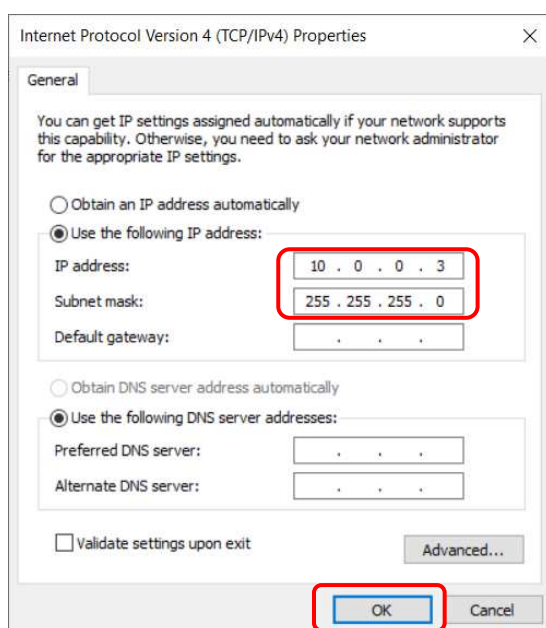

Figure 21: Network Configuration – IP address & Subnet mask
6. The IP address you assign to your computer needs to be in the same format as the HEAT VIEW controller(s). For example, if the HEAT VIEW controller has an IP address of 10.0.0.20, you need to set your computers IP address to something different but similar such as 10.0.0.3; as seen in Figure 21 below. **The preferred IP address for your computer is 10.0.0.3.**
The 'Subnet Mask' will always be 255.255.255.0 unless using a custom network configuration. Once you've entered the settings, please click 'OK' – as is highlighted in Figure 21 below – on all windows that have an 'OK' button. Clicking 'Cancel' will cause any changes you made to not take effect.